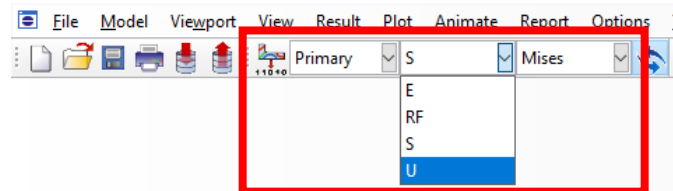

Figure 2-33 – The Field Output menu.
3. You can change the contour plot from the **Field Output** menu, as shown in Figure 2-33. You may choose from the output data defined in the **History Output Request**, see Section 2.4.